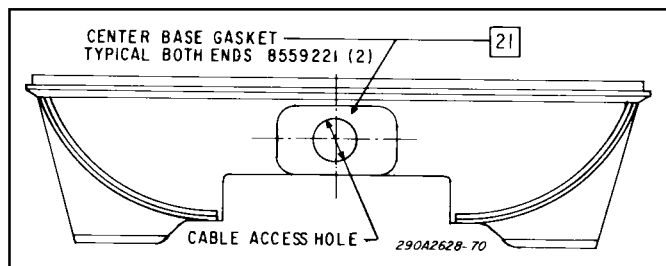

Figure 4.
21. See figure 4. Remove the backing from one of the center base gaskets. Align the hole in the gasket with the hole in the center base and press into place. Install the other center base gasket on the other side of the center base.